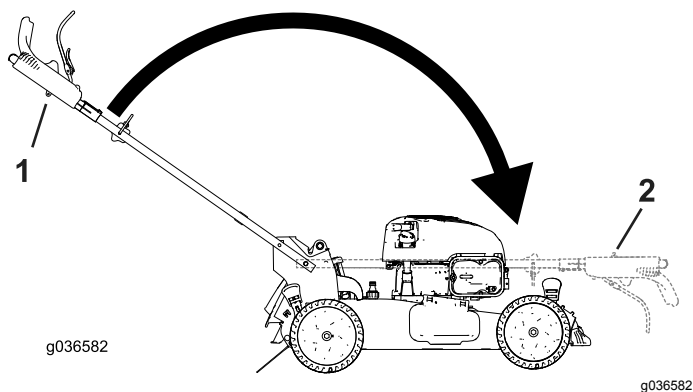

Figure 25
2. Fold the handle by rotating it forward (Figure 25).